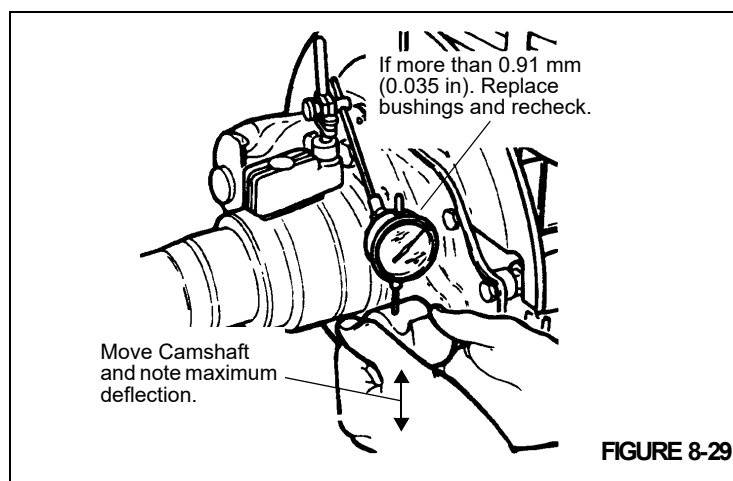

FIGURE 8-29
7. Each time the brake shoes are removed, check camshaft radial play as outlined in step 7a thru 7e below and (Figure 8-29).